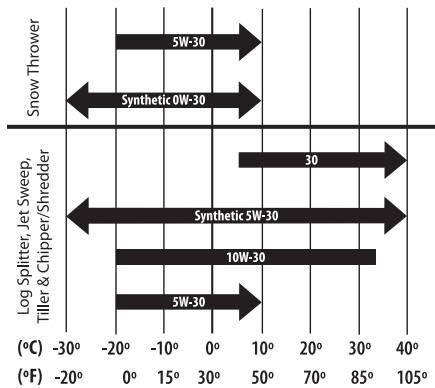

Figure 3-1
Before starting engine, fill with engine oil, capacity is 1100 ml/37.2 oz. Refer to viscosity chart in "Figure 3-1" for oil recommendations. Do not over-fill. Use a 4-stroke, or an equivalent high detergent, premium quality engine oil certified to meet or exceed U.S. automobile manufacturer's requirements for service classification of a minimum level SJ (higher letter ratings are acceptable such as SL and SM grades).
1. Remove the oil filler cap/dipstick and wipe the dipstick clean. See "Figure 3-1".